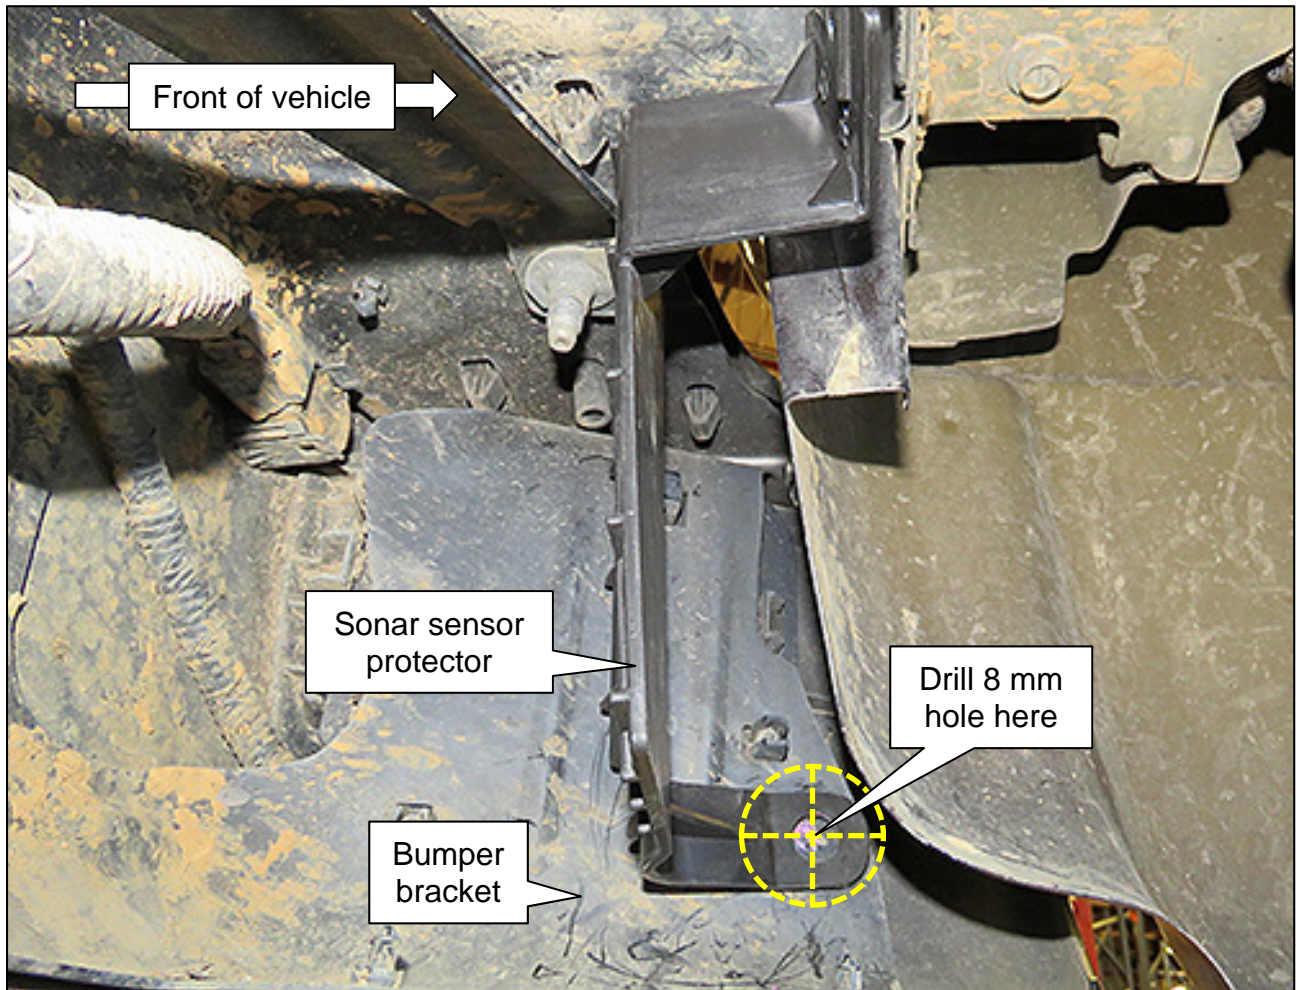

Figure 8
7. Drill an 8 mm (5/16") hole through the sonar sensor protector's hole into bumper bracket, where shown in Figure 8.